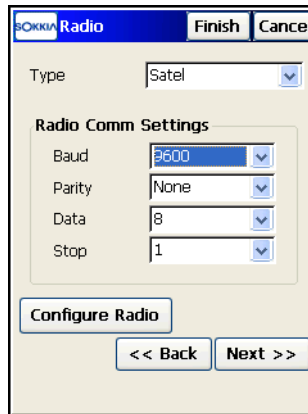

Figure 4-72. TS Radio
6. For a Robotic Survey, choose the modem to be used and its parameters, then tap **Next** (Figure 4-72 on page 4-56).